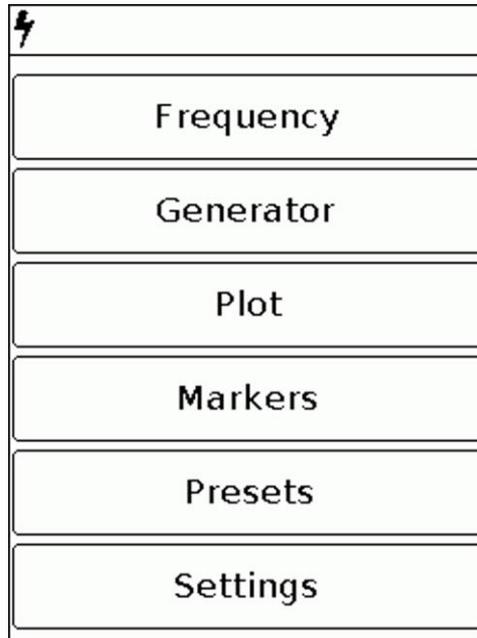

Figure 8.1.1 - The main menu of the device
8.1.1. Turn on the device in accordance with section 6 of this «Manual». To enter the main menu, press the «**MENU**» button (7). Menu will appear on the screen, as in Figure 8.1.1.